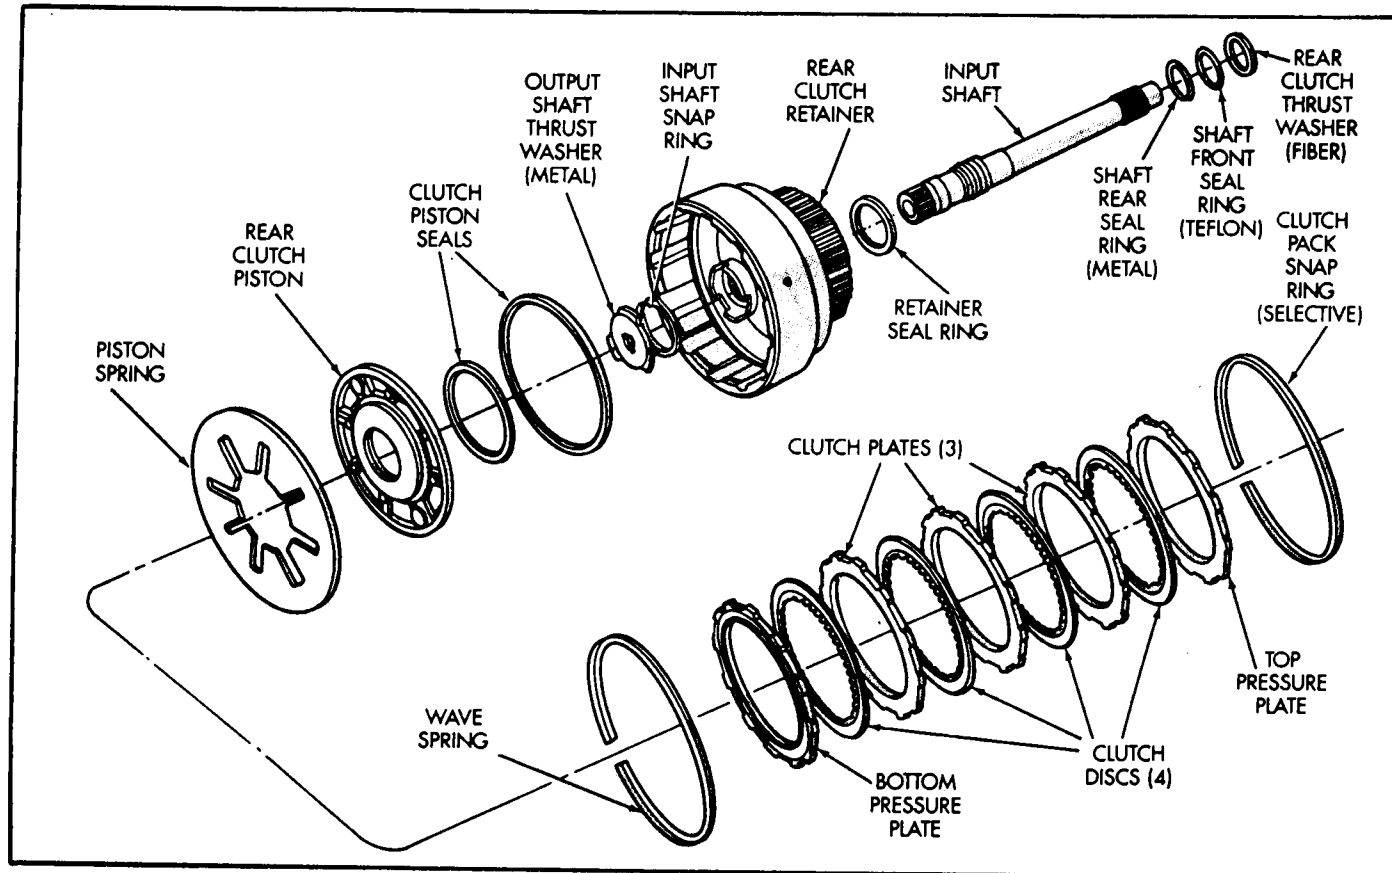

Figure 66
1. Clean all rear clutch components with clean solvent and dry with compressed air (See Figure 66).
8. Install bottom pressure plate, ridged side facing down (See Figure 66).
9. Install clutch plates beginning with a lined plate and alternating with steel plates, until you have 4 lined and 3 steel plates installed (Figure 66).